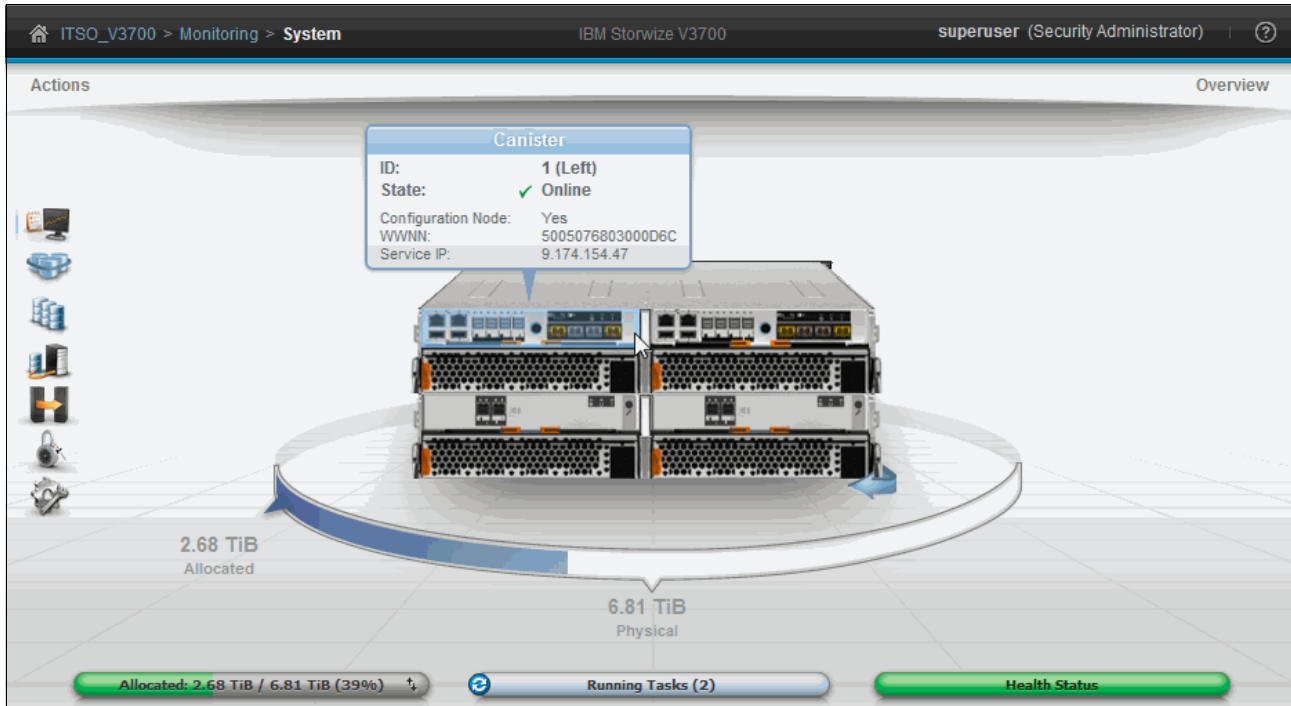

Figure 3-38 System pane: Rear view
3. Click the arrow at the lower-right of the graphic again, as shown in Figure 3-38, to rotate it to show the front of the system.